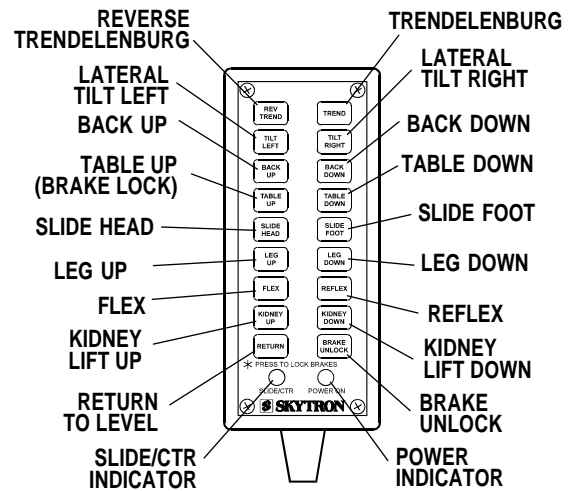

Figure 2-2. Pendant Control Unit
The hand-held pendant control unit (figure 2-2) activates the following table functions:
a. Make sure the green, AC 120V, Power-On indicator light, on the hand-held pendant control, is OFF. See figure 2-2. If the indicator light is ON, depress the main power ON/OFF switch, located on the electrical enclosure to turn AC120V operation OFF.